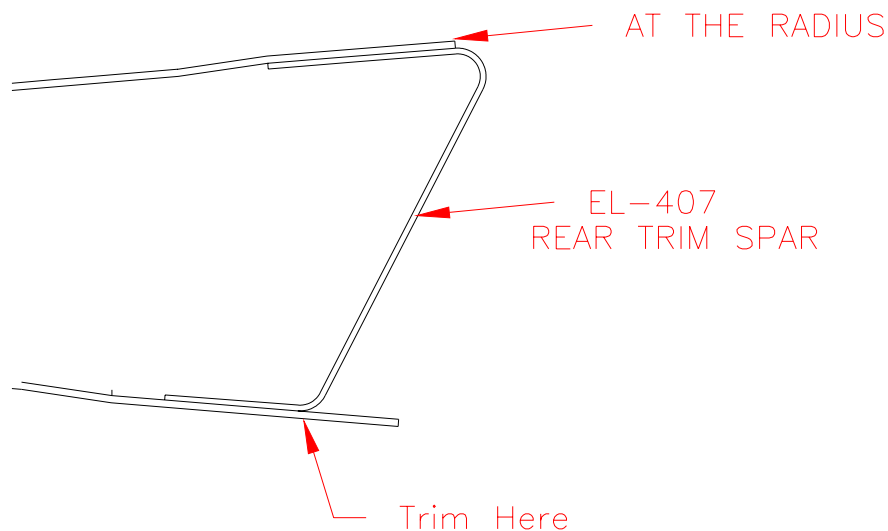

Figure 3.5.6
27) Position the Trim Rear Spar (EL-407) as in Figure 3.5.6.